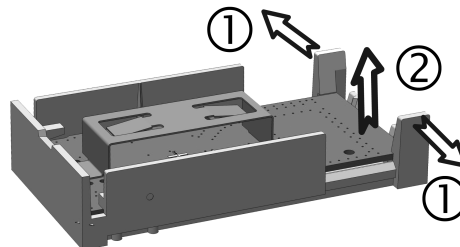

Figure 3: Removing the circuit board
- Remove the circuit board. To do this, carefully push the two locking lugs (Figure 3) outwards so that the board can be lifted up.